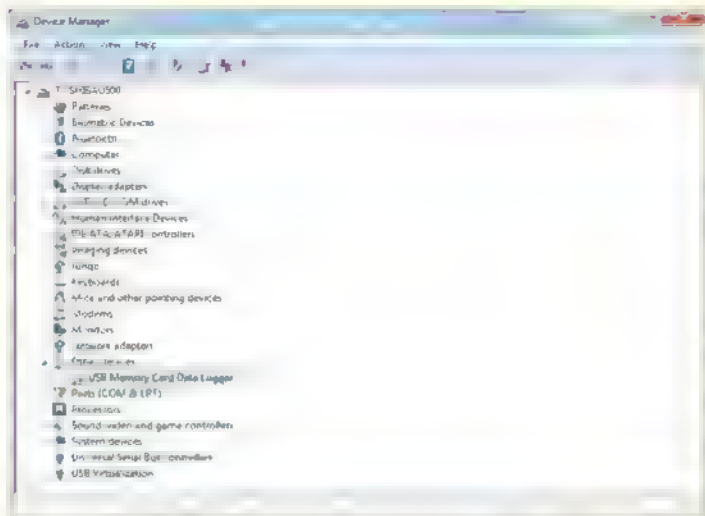

Fig.5: this is how the *USB Data Logger* entry appears in Device Manager before the Windows driver is installed
- 5) Go to Control Panel → Device Manager. A window will appear, as shown in Fig.5, and this should show the '*USB Memory Card Data Logger*' device with a yellow exclamation mark next to it.